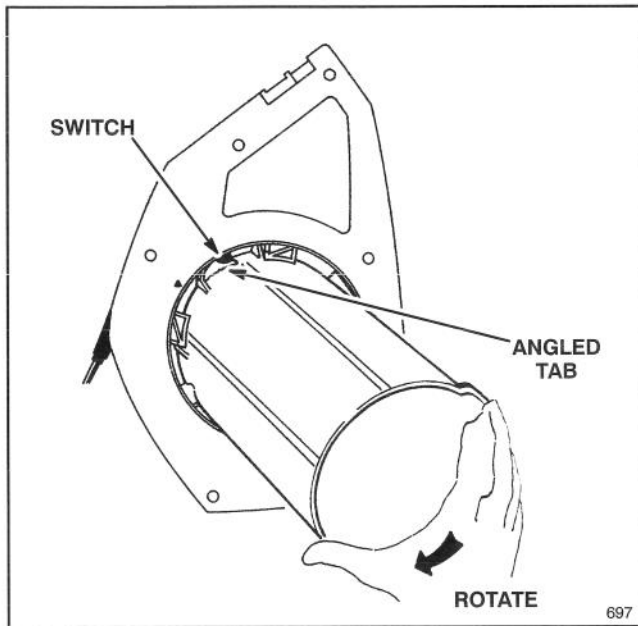

Figure 8
6. Rotate vacuum tube clockwise until the angled tab on the tube locks fully against the switch (Fig. 8). Some extra effort may be required when you rotate the tube.